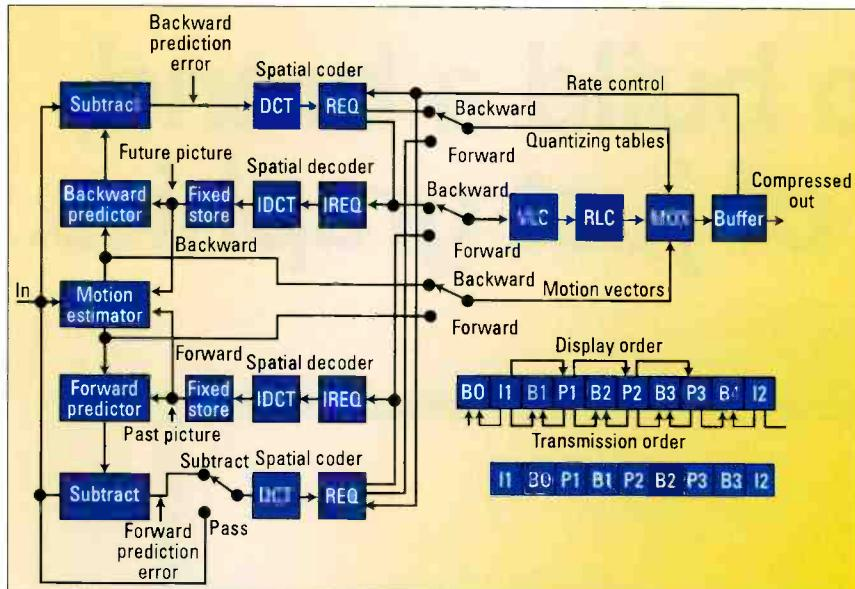

Figure 5. Conceptual block diagram of an IPB encoder
• *Bidirectional coded pictures (B):* A new B picture from the input contains predictable information present in the I and P pictures, as well as unpredictable (discovered) information. Figure 5 shows a conceptual diagram of an IPB compression scheme. The motion compensator compares the B picture
In applications where random access is important, I pictures are used twice every second. The encoder also chooses the number of B pictures between any pair of I or P pictures. A GOP is no more than 15 pictures long, starting with an I picture and finishing with a B picture. A typical arrangement of I, P and B pictures is shown in Figure 5 in the order in which they are displayed. The MPEG encoder re-orders the pictures in the video stream to present the pictures to the decoder in the most efficient sequence.